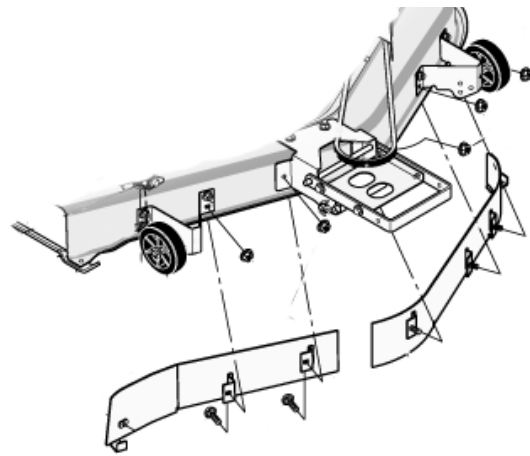

Figure 9
1) Position the left deck baffle (7400267A) and right deck baffle (7400268A) on the front inside surface of the 52" deck. Align the holes and insert carriage bolts (M720053) with the threaded portion sticking out. Install nuts (7090585) onto the carriage bolts. Tighten securely. See Figure 9.